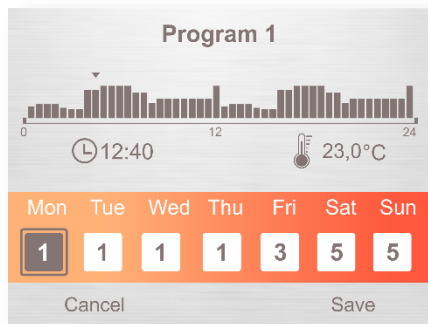

Fig. 13
(F) button enters edit mode (fig.13), causing selected parameter to be marked brown. Buttons (↑) and (↓) move allow for switching through existing programs for selected day.